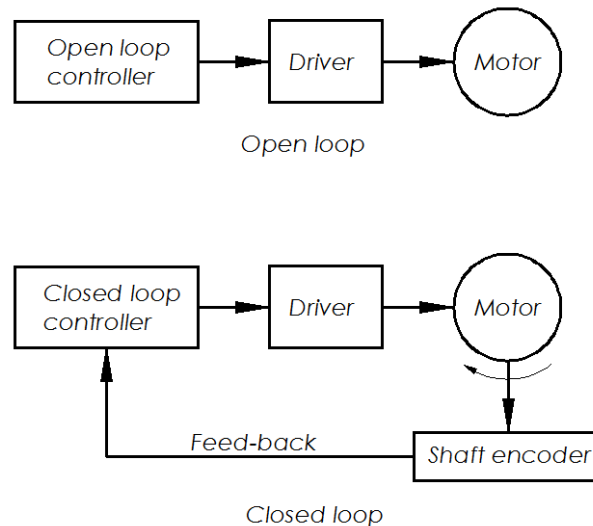

Figure 6.15
**Figure 6.15** shows both types of control and they both have a controller that gives orders to a driver, which is a power circuit (usually an H-bridge) that drives the motor in the required direction.